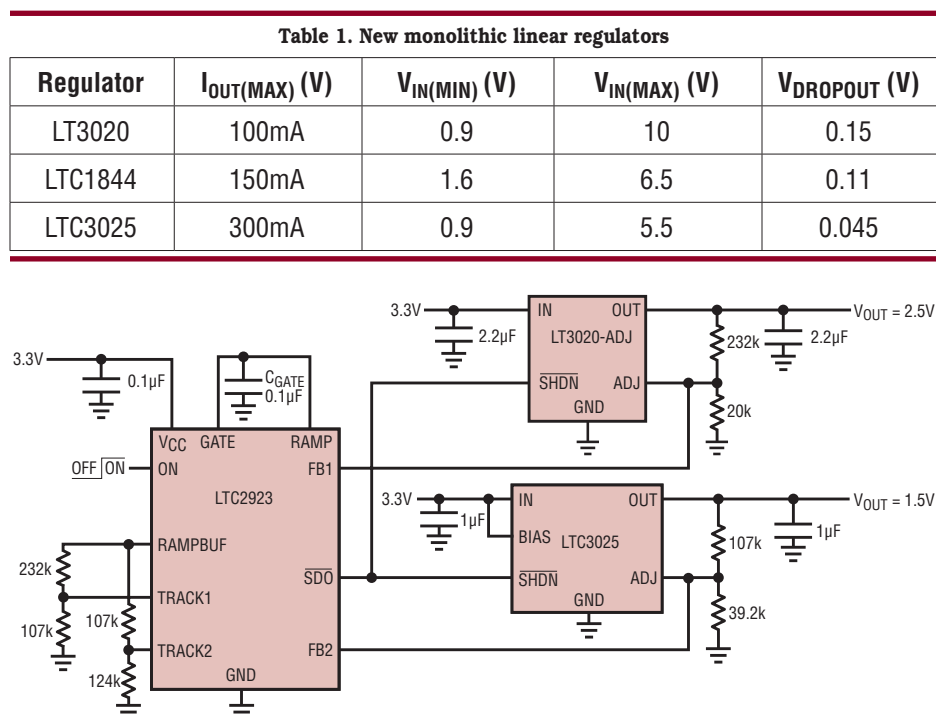

Figure 1. An LTC2923 causes the outputs of the LT3020 and LTC3025 to track during power-up and power-down.
- The LTC3020 is a 100mA low dropout regulator (LDO) that operates with input supply voltages between 1V and 10V. Since its ADJ pin behaves like the feedback pin on most switching regulators, tracking the LTC3020's output using the LTC2923 is simple. The standard circuits and design procedures shown in the LTC2923 data sheet require no modification when used with the LTC3020 (Figures 1 and 2).
- The LTC3025 is a 300mA monolithic CMOS LDO that regulates input supplies between 0.9V and 5.5V, while a bias supply between 2.5V and 5.5V powers the part. Similar to the LT3020, the LTC3025's ADJ pin is operationally identical to common switchers. For that reason, the LTC3025 combined with an LTC2923 provides a simple supply tracking solution for loads less than 300mA (Figures 1 and 2).